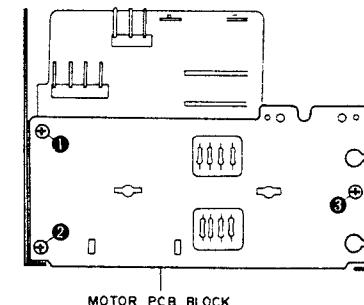

Fig. 3-10
- 2) Remove motor PCB block securing screws ⑩, ⑪ and ⑫ and take out the motor PCB block. (Refer to Fig. 3-10.)